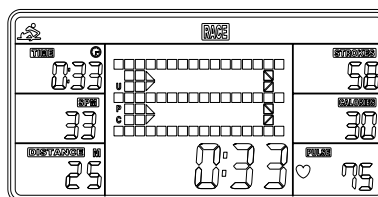
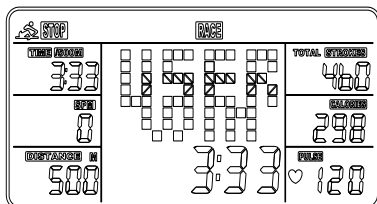

Fig. 6
Fig. 7
A. Press START button to start and STOP will disappear. USER and PC will display in the matrix (Fig. 6). The meter will stop when either the user or meter has reached the race distance that was set. Then, the matrix displays "PC WIN" or "USER WIN" (Fig.7).